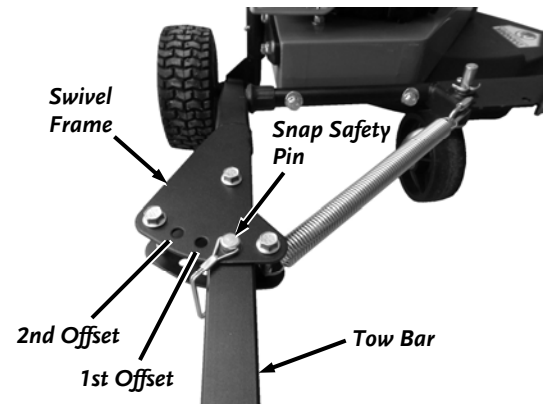

Figure 21
2. Remove the Snap Safety Pin that is securing the Swivel Frame to the Tow Bar (Figure 21).